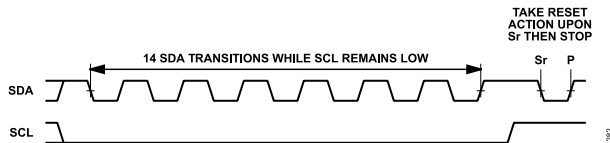

Figure 82. Reset Pattern Timing Diagram
The reset pattern shown in Figure 82 allows the digital host to reset the AD4060 from any of its operating modes.
The reset pattern is described in Section 5.1.11.3 of the MIPI specifications and is equivalent to fourteen SDA transitions while SCL is kept low, followed by a repeated start (Sr) and a stop (P). Figure 82 shows the timing diagram for resetting the AD4060 with the reset pattern. The digital host must wait for the delay time associated with the reset action of the device (see the Table 5) to elapse before initiating I3C transactions.